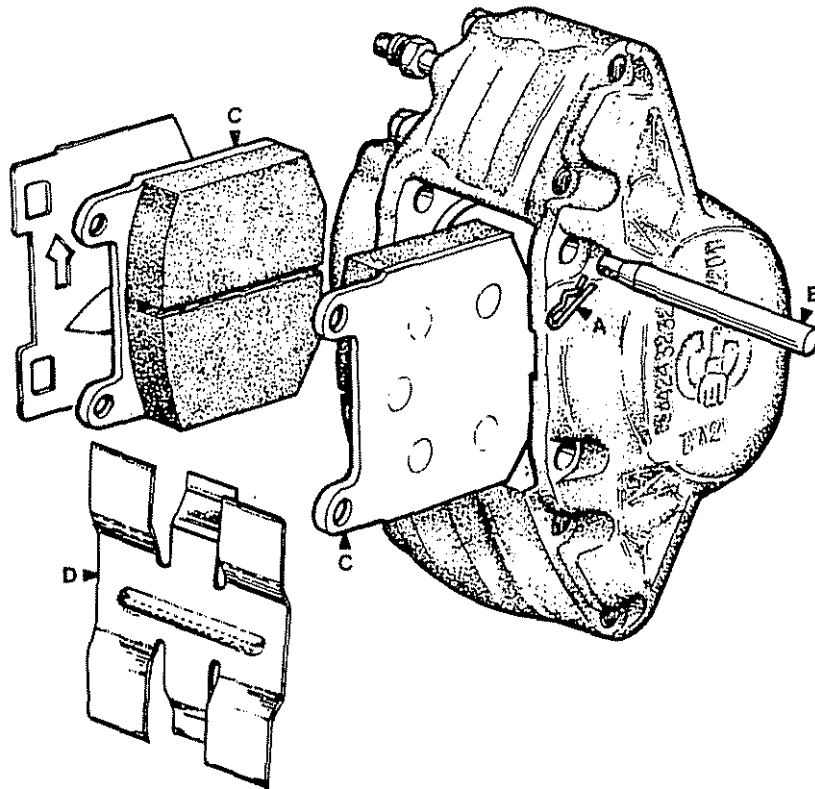

Fig.2 Front brake pads removal
3. Pull out the pad retaining pin clips (A), withdraw the retaining pins (B) and remove the brake pads (C) with the shims (Fig.2). Note the position of the dust shield fitted over the brake pads.